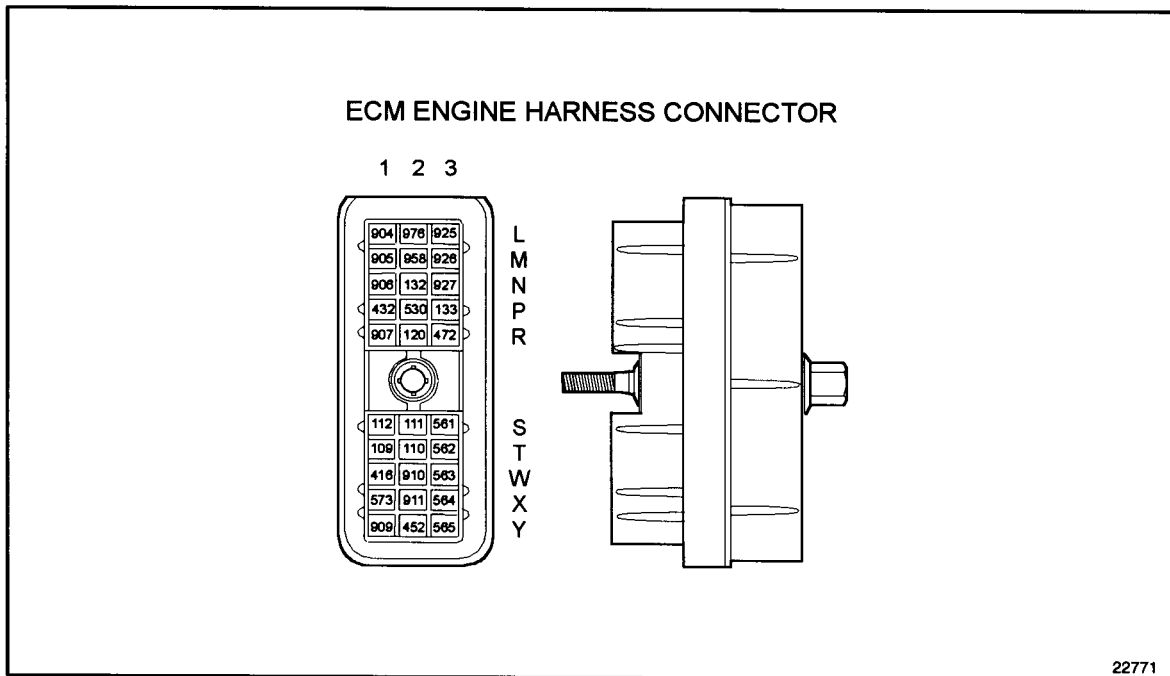

Figure 14-4 ECM Engine Harness Connector
4. Measure resistance between sockets PMR2 #120M and W1 #416 on the Master engine harness connector. See Figure 14-4.
4. Measure resistance between sockets R2 #120 (Receiver) and W1 #416 on the Master engine harness connector. See Figure 14-4.